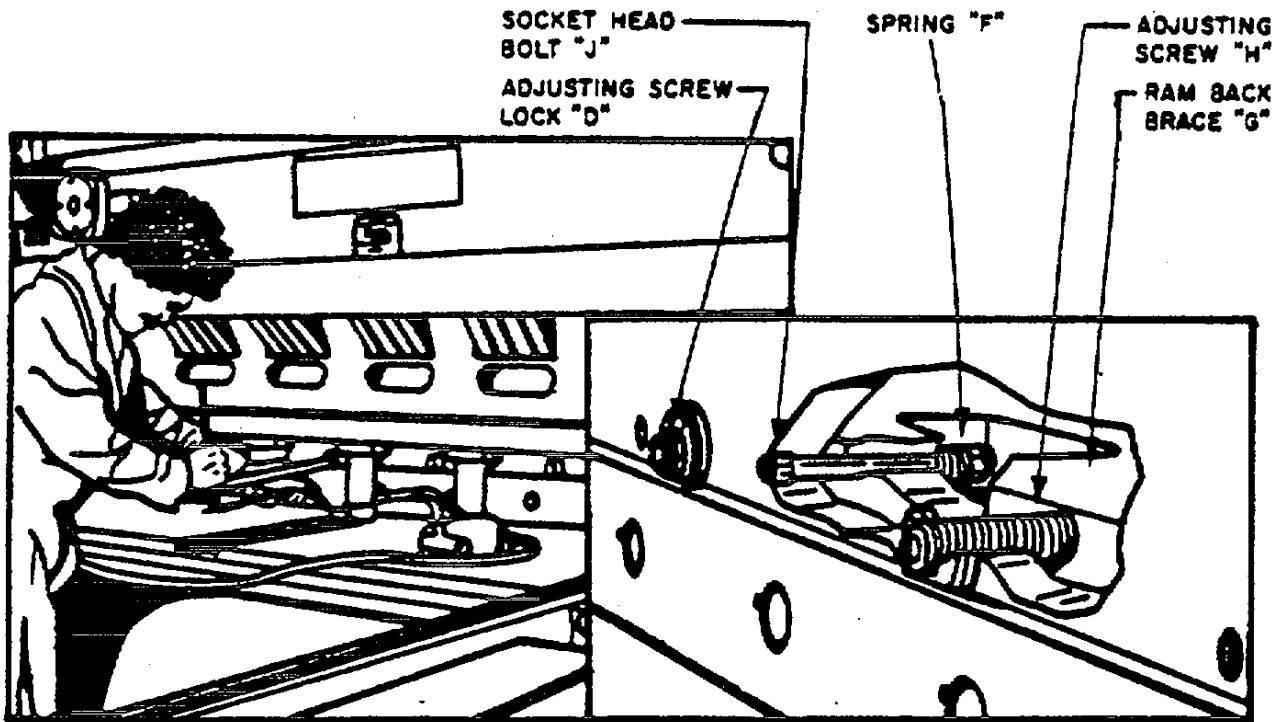

Figure 15. Adjusting the Upper Blade
- (1) Raise the ram and then lower it to a point where the blades intersect 1" to the right of the first ram adjusting screw "H", at the low end of the upper blade (Figure 15). Make an adjustment by turning adjusting screw "H" until the clearance between the blades is the same as the clearance at the end of the blades. It will be necessary to loosen the locking screw "D" before this adjustment can be made. Spring "F" should have sufficient tension to keep adjusting screw "H" solidly against the back brace.
- (2) The next adjustment is made just beneath the second adjusting screw in the same manner as the adjustment in step 1; however, the clearance should be the same or slightly less, depending on the length of the machine. It is necessary to lower the ram further for this adjustment to a point where the intersection of the two blades is about 1" to the right of the second adjusting screw.
(3) The third adjustment is made beneath the third adjusting screw in the same manner as the first and the second. This procedure is continued from left to right until the center of the blade is reached, at which point each successive adjustment is progressively increased to the right. Adjusting screws are placed on approximately 12: centers; therefore, the number of screws in any given shear and the adjustment from one check point to the next depends on the length of the shear.